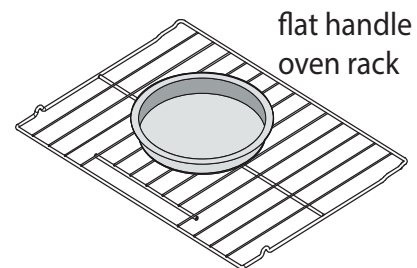
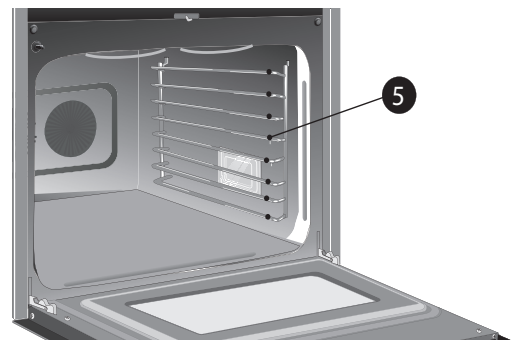

Figure 19: Single rack baking pan position
Figure 20: Oven rack position (5)
- Always place in center of the oven on rack position 5 (Figure 20) and place the food as shown in Figure 19.